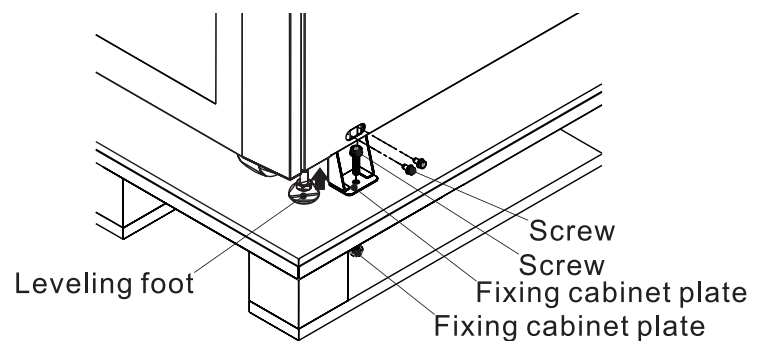

Figure 4.4
3. Remove the four fixing plates (Figure 4.4) and loosen the levelling feet by rotating them anticlockwise, raising them above the level of the casters. The UPS cabinet may now be rolled off the pallet and down the ramp. At least three people should be present to move the UPS to the installation area, two to support either side of the UPS and a third to guide the UPS into its final location.